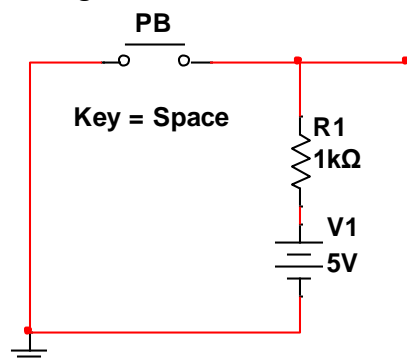

Figure 2a. Pushbutton with Pull up Resistor Schematic
You will use pushbuttons with pull up resistors for the circuit clock and reset inputs. Connect the normally open (NO) connection of the pushbutton to power through a pull up resistor and wire as shown in Figures 2a and 2b. The connection between the pushbutton and the resistor is the signal for the reset or clock.